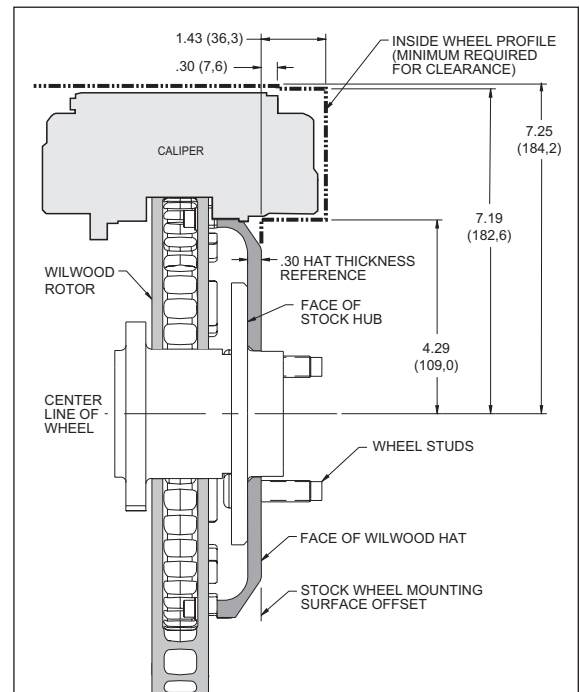

Figure 2. Wheel Clearance Diagram
- Review the wheel clearance diagram (figure 2, page 3) to verify that there is adequate clearance with the wheels you will be using with the installation.
- Verify your wheel clearance using figure 2.